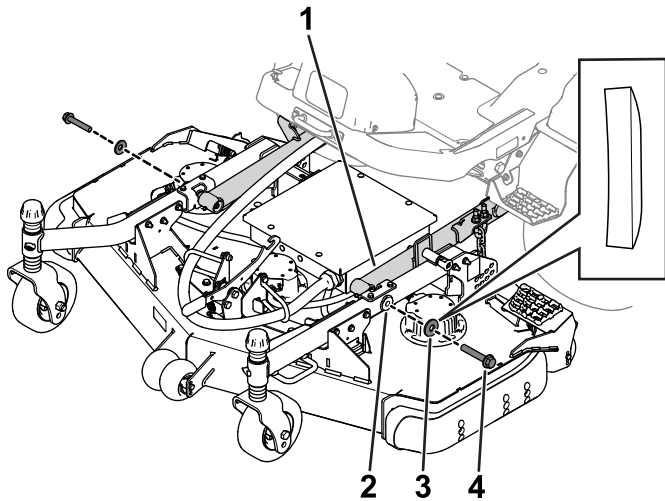

Figure 3
4. Use 2 hex-head bolts and 2 washers to secure the castor arms to the lift arms (Figure 3).
Ensure that the washers are positioned with the curved side adjacent to the bolt head (Figure 3).